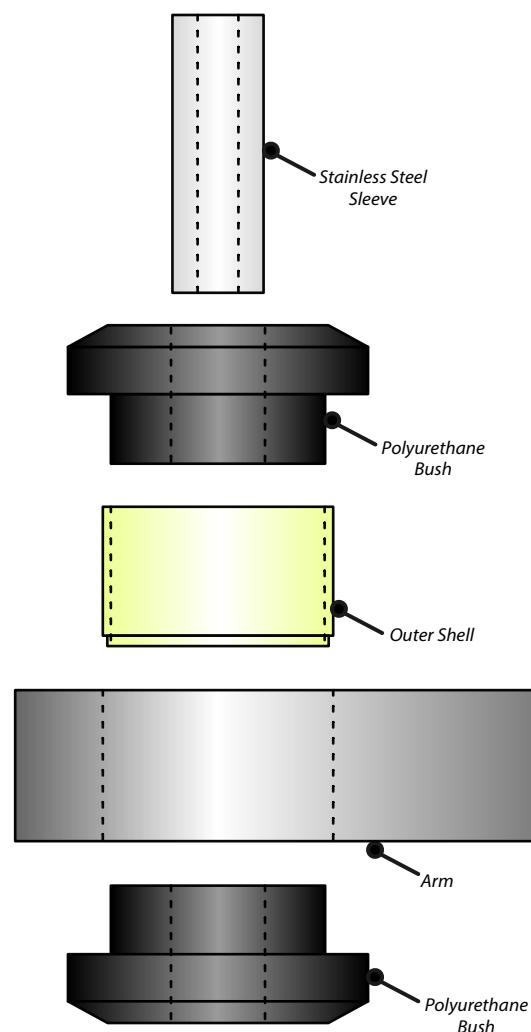

Figure 1
4. Push the polyurethane bushes into the outer shell as shown in figure 1.